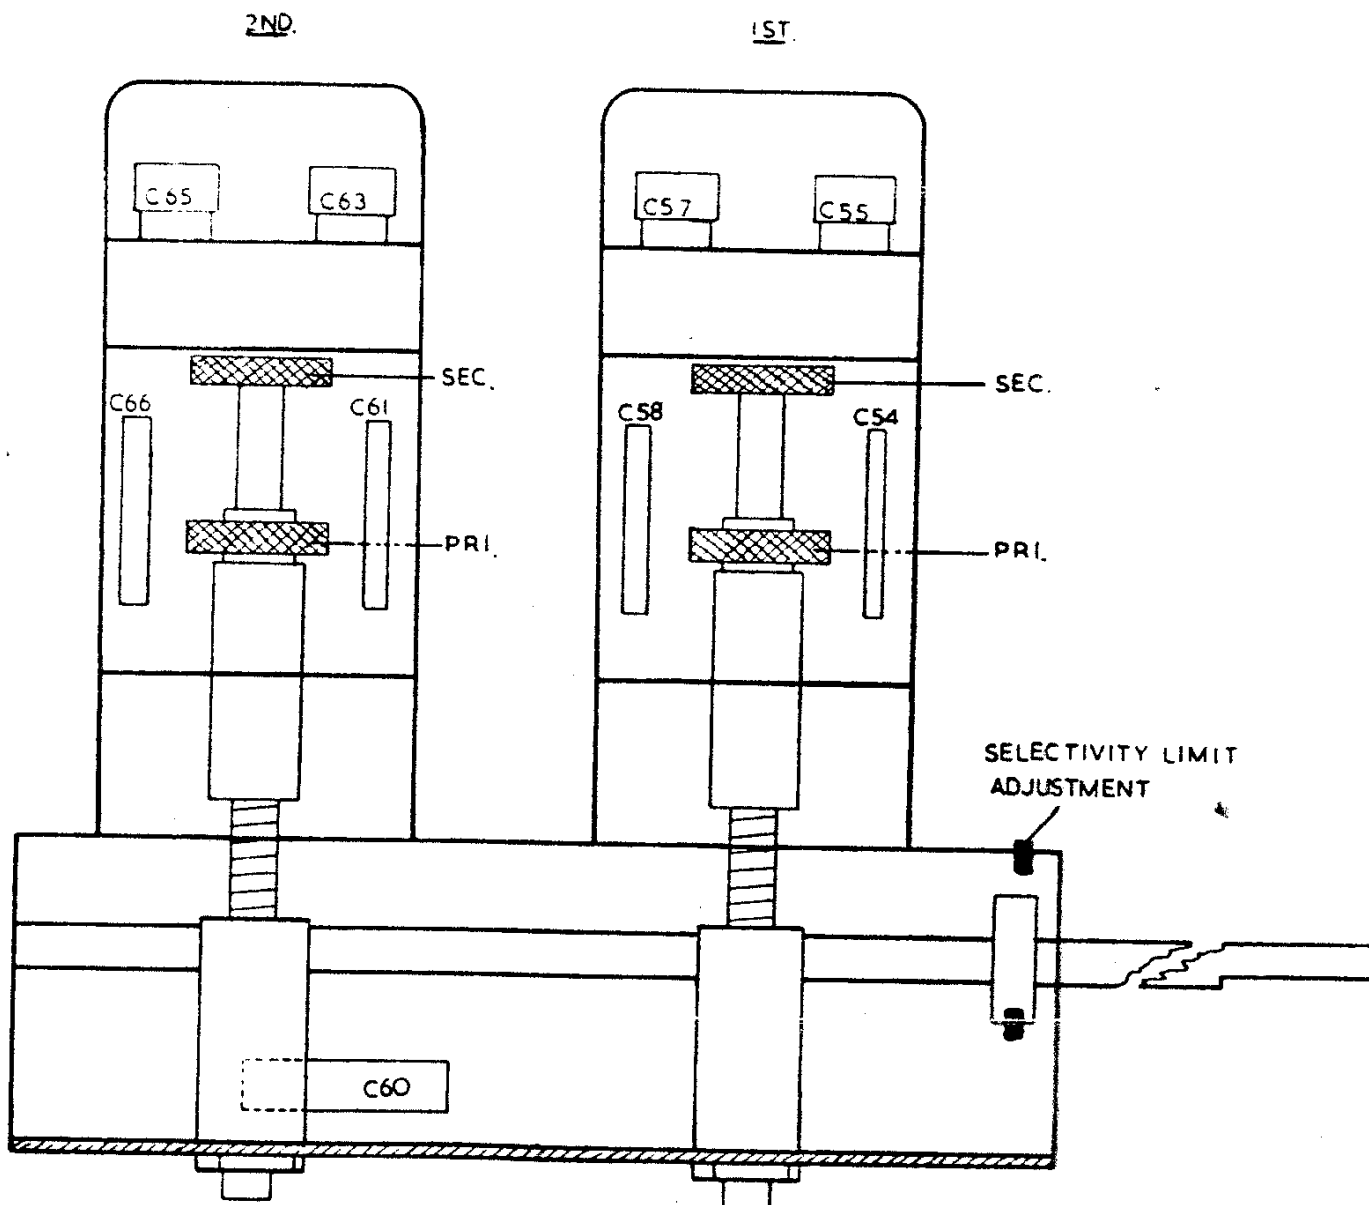

FIG. 1. INSIDE THE FIRST AND SECOND L.F. TRANSFORMERS.
- Fig. 1. Inside of the first and second I.F. Transformers